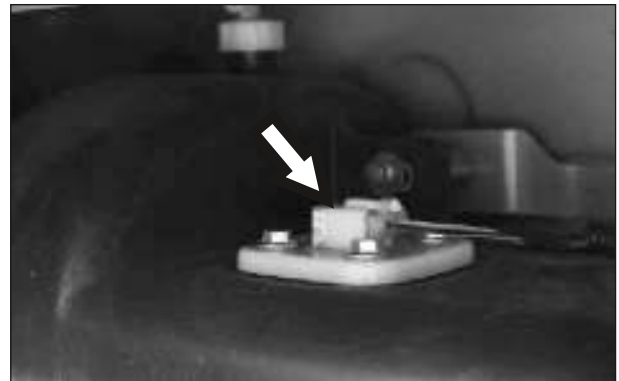

Fig. 6.81
- The fuel sender unit is fitted on the top of the fuel tank assembly. (Fig. 6.81)